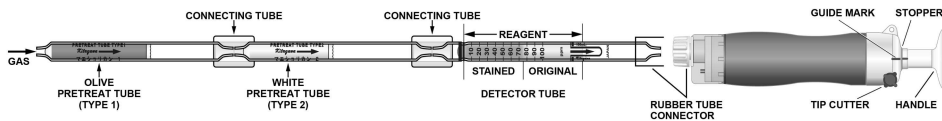

Fig.1
- ① Break both ends of the detector tube and pretreat tubes (Type 1, Type 2), and connect each end of the detector tube and pretreat tubes with connecting tubes as shown in Fig.1.
- ② Insert the detector tube into the aspirating pump securely as shown in Fig. 1. (Arrow marks on the detector tube and pretreat tubes shall point to the pump.)
- ③ Align the guide marks on the shaft and stopper of the aspirating pump.
- ④ Pull the pump handle at a full stroke until it locks and wait for 2 minutes or until the completion of sampling is confirmed with the flow indicator of the pump. (See descriptions about the flow indicator in the instruction manual of the pump.)
- ⑤ On completion of sampling, read the scale at the maximum point of the stained layer.
- ① Temperature: Correct the tube reading by following temperature correction table.